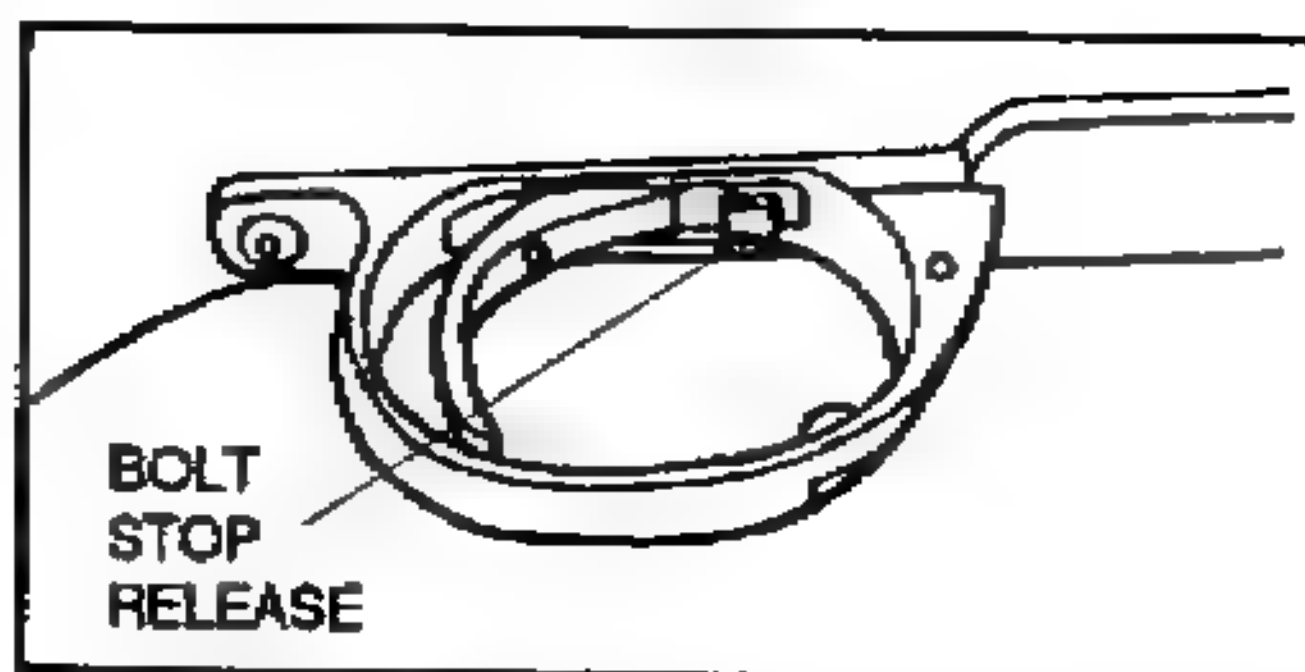

Figure 2-4. Bolt stop release.
(1) To remove the bolt from the receiver, release the internal magazine, place the safety in the "S" position, raise the bolt handle, and pull it back until it stops. Then push the bolt stop release (Figure 2-4) and pull the bolt from the receiver.